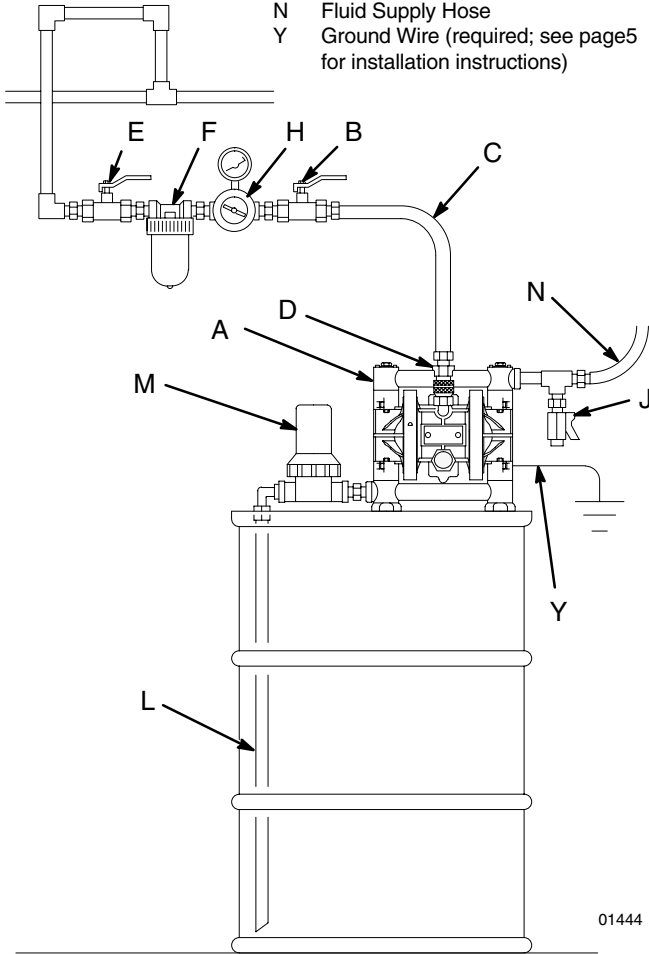

Fig. 2
1. The Typical Installations in Figs. 2–3 are only guides for selecting and installing system components. Contact your VERDER Customer Service for assistance in planning a system to suit your needs.
When pumping conductive flammable fluids, **always** ground the fluid system by making sure the fluid has an electrical path to a true earth ground. See Fig. 2 and 3.
A bleed-type master air valve (B) is required in your system to relieve air trapped between this valve and the pump. See Figs. 2–3. Trapped air can cause the pump to cycle unexpectedly, which could result in serious injury, including splashing in the eyes or on the skin, injury from moving parts, or contamination from hazardous fluids.
1. Install the air line accessories as shown in Figs. 2–3. Mount these accessories on the wall or on a bracket. Be sure the air line supplying the accessories is grounded.
- a. The fluid pressure can be controlled. To control it on the air side, install an air regulator (H).
- b. Locate one bleed-type master air valve (B) close to the pump and use it to relieve trapped air. See the **Warning** above. Locate the other master air valve (E) upstream from all air line accessories and use it to isolate them during cleaning and repair.
- c. The air line filter (F) removes harmful dirt and moisture from the compressed air supply.
A fluid drain valve (J) is required in your system to relieve pressure in the hose if it is plugged. See Figs. 2–3. The drain valve reduces the risk of serious injury, including splashing in the eyes or on the skin, or contamination from hazardous fluids when relieving pressure. Install the valve close to the pump fluid outlet.